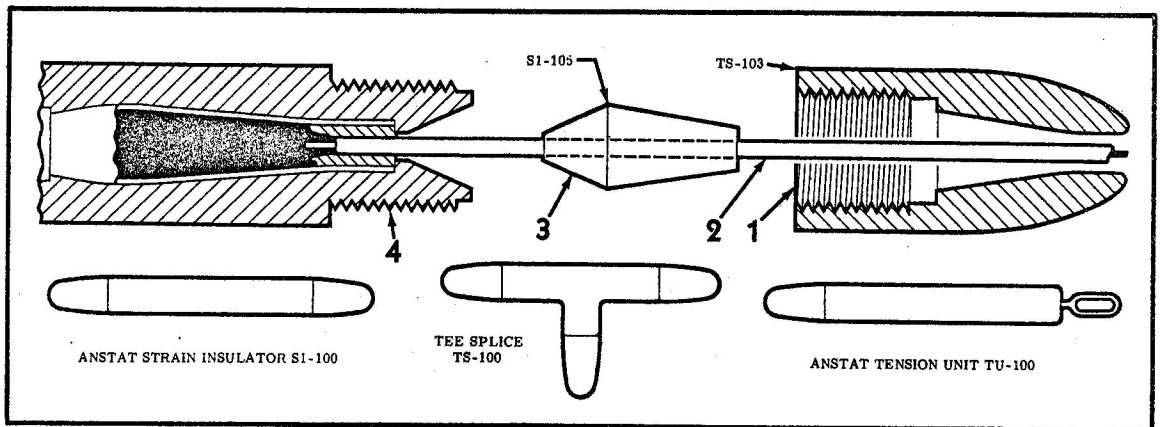

Figure 12 Dead End Mast Components
32 To connect wire into fitting proceed as follows:- See Figure 12.
- 33 To remove wire from fitting proceed as follows:- See Figures 12 and 13.
- (a) Cut antenna 6" in front of cap (1) with pliers.
- (b) Unscrew cap (1) and remove rubber seal (3).